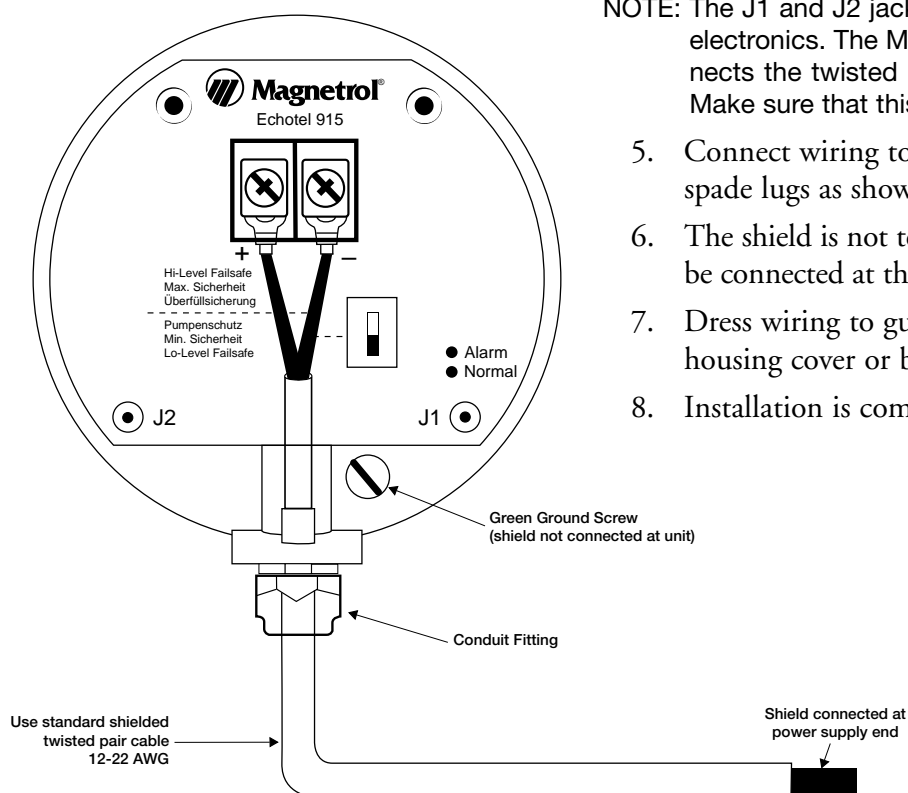

Figure 6
1. Set the Hi-Level/Lo-Level Failsafe switch (Figure 6) to the Hi-Level position.
5. Connect wiring to the terminals marked + and – with spade lugs as shown in Figure 6.